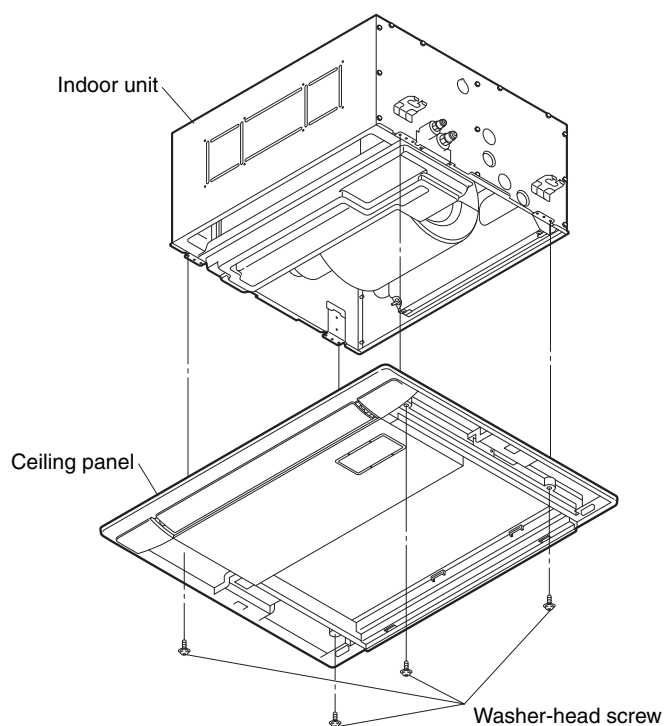
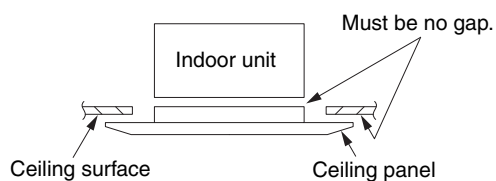

Fig. 3-77
Fig. 3-78
- (5) Align the installation holes on the panel with the bolt holes on the unit.
- (6) Insert the supplied washer head bolts into the 4 panel installation holes, and tighten until the panel is securely fastened against the unit. (Fig. 3-77)
- (7) Verify that the panel is securely fastened against the unit.
- At this time, make sure that there is no gap between the indoor unit and the ceiling panel, or between the ceiling panel and the ceiling surface. (Fig. 3-78)